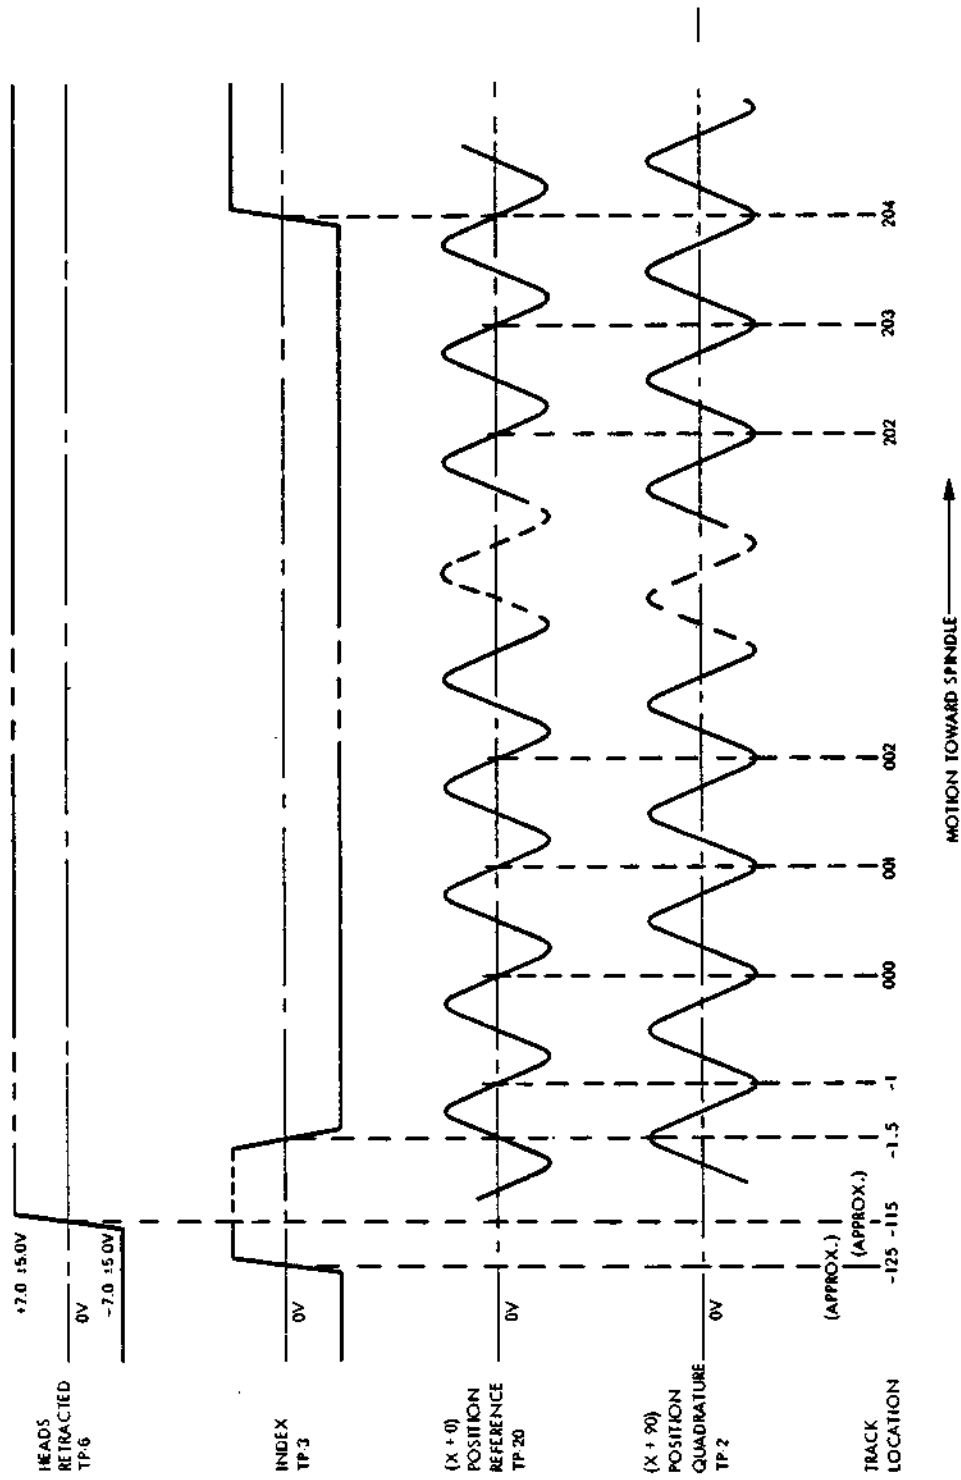

Figure 6-4. Position Transducer Signal Amplifier Outputs
- (1) Manually move the positioner carriage slowly, and at a constant rate, back and forth through its full stroke, i.e., cylinder 000 to cylinder 202 (cylinder 000 to 405 for 200 tpi). Do not unload the heads from the disk.
- (2) Monitor TP20 on oscilloscope Channel 1 and observe the Position Reference (X + 0) waveform shown in Figure 6-4 as the positioner is being moved. The peak-to-peak voltage observed throughout the full stroke of the positioner must fall within the acceptable limits listed in Step (3). If the acceptable limits are exceeded, perform the adjustment procedures in Paragraph 6.8.1.3 before continuing this procedure.
- (3) Acceptable limits:
- (1) Loosen the three Allen-head screws that hold the scale assembly to the side of the carriage. The scale will pivot slightly around its locating pin.
- (2) Manually move the positioner carriage back and forth slowly (at a constant rate) through its full stroke while monitoring the waveform at TP20 (X + 0) (refer to Figure 6-4).
- (3) Adjust the horizontal angle of the scale so that the amplitude of the waveform at TP20 remains constant throughout each full stroke of the positioner carriage.
- (4) Tighten the three Allen-head screws loosened in Step (1).
- (5) Perform the X + 0 Gain and Balance adjustment procedure detailed in Paragraph 6.8.1.3.
- (2) Monitor TP2 on oscilloscope Channel 1 and observe the X+90 Position Quadrature waveform shown in Figure 6-4 as the positioner is being moved. The peak-to-peak voltage observed throughout the full stroke of the positioner must fall within the acceptable limits listed in Step (3). If the acceptable limits are exceeded perform the adjustment procedure detailed in Paragraph 6.8.2.3.
- (1) Move the positioner carriage to its fully retracted position. Note that the spindle speed decreases as the heads are unloaded.
- (2) Select Channel 1.
- Check that the ac level of the signal at TP6 is  $\leq -2v$  (refer to Figure 6-4).
- Continue to move the positioner carriage slowly toward the spindle all the way to the front stop. Check that the signal voltage remains at  $\geq +2v$  as shown in Figure 6-4.
(3) Select Channel 2.
(4) Perform the Index Balance procedure detailed in Paragraph 6.8.5.